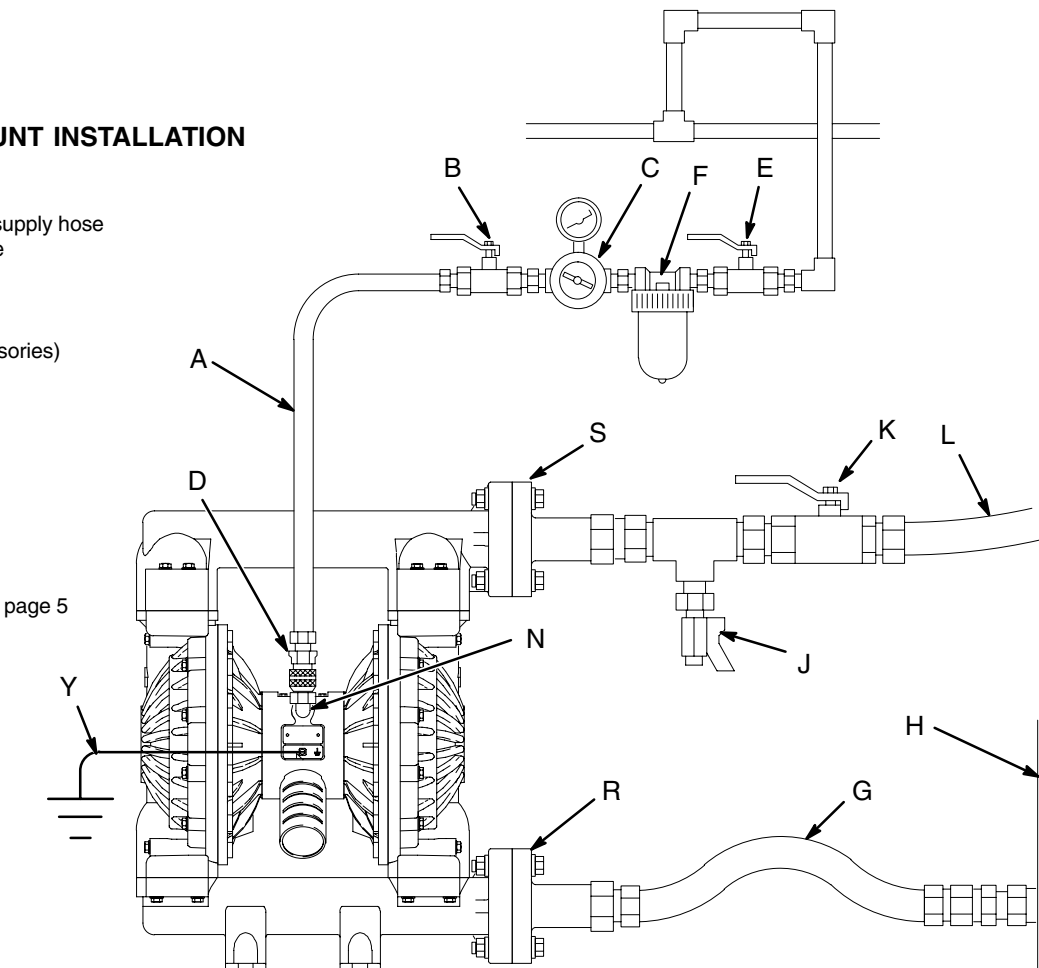

Fig. 2
- The Typical Installation shown in Fig. 2 is only a guide for selecting and installing system components. Contact your Graco distributor or Graco Technical Assistance (see back page) for assistance in planning a system to suit your needs.
A bleed-type master air valve (B) is required in your system to relieve air trapped between this valve and the pump. Trapped air can cause the pump to cycle unexpectedly, which could result in serious injury, including splashing in the eyes or on the skin, injury from moving parts, or contamination from hazardous fluids. See Fig. 2.
1. Install the air line accessories as shown in Fig. 2. Mount these accessories on the wall or on a bracket. Be sure the air line supplying the accessories is electrically conductive.
- a. Install an air regulator (C) and gauge to control the fluid pressure. The fluid outlet pressure will be the same as the setting of the air regulator.
- b. Locate one bleed-type master air valve (B) close to the pump and use it to relieve trapped air. See the **WARNING** at left. Locate the other master air valve (E) upstream from all air line accessories and use it to isolate them during cleaning and repair.
- c. The air line filter (F) removes harmful dirt and moisture from the compressed air supply.
2. Install an electrically conductive, flexible air hose (A) between the accessories and the 1/2 npt(f) pump air inlet (N). See Fig. 2. Use a minimum 1/2" (13 mm) ID air hose.
3. Screw an air line quick disconnect coupler (D) onto the end of the air hose (A); be sure the coupler porting is large enough to not restrict the air flow, which will affect pump performance. Screw the mating fitting into the pump air inlet snugly. Do not connect the coupler (D) to the fitting until you are ready to operate the pump.
KEY FOR FIG. 2
A fluid drain valve (J) is required to relieve pressure in the hose if it is plugged. The drain valve reduces the risk of serious injury, including splashing in the eyes or on the skin, or contamination from hazardous fluids when relieving pressure. Install the valve close to the pump fluid outlet. See Fig. 2.
1. The pump fluid outlet (S) is a 2" raised face flange. Refer to **Flange Connections** on page 8.
2. Install a fluid drain valve (J) near the fluid outlet. See the **WARNING** above.
3. Install a shutoff valve (K) in the fluid outlet line.